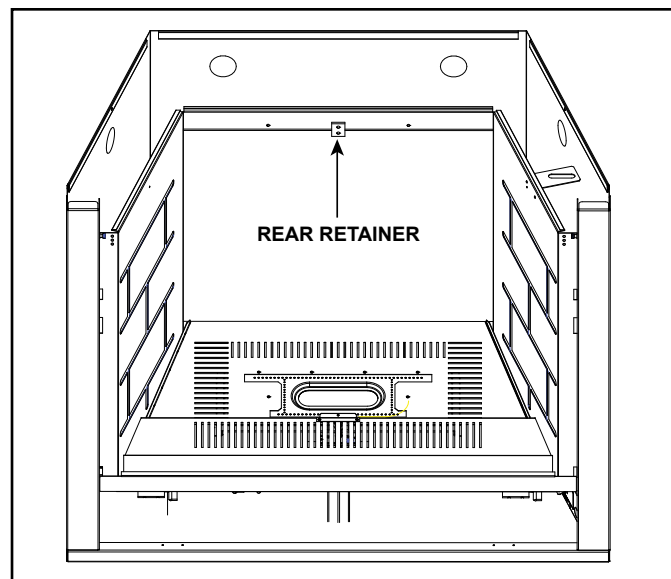

Figure 11.2 Install Rear Retainer
1. Install the rear glass panel as shown in Figure 11.2 the panel retainers and screws are included in the appliance manual bag.